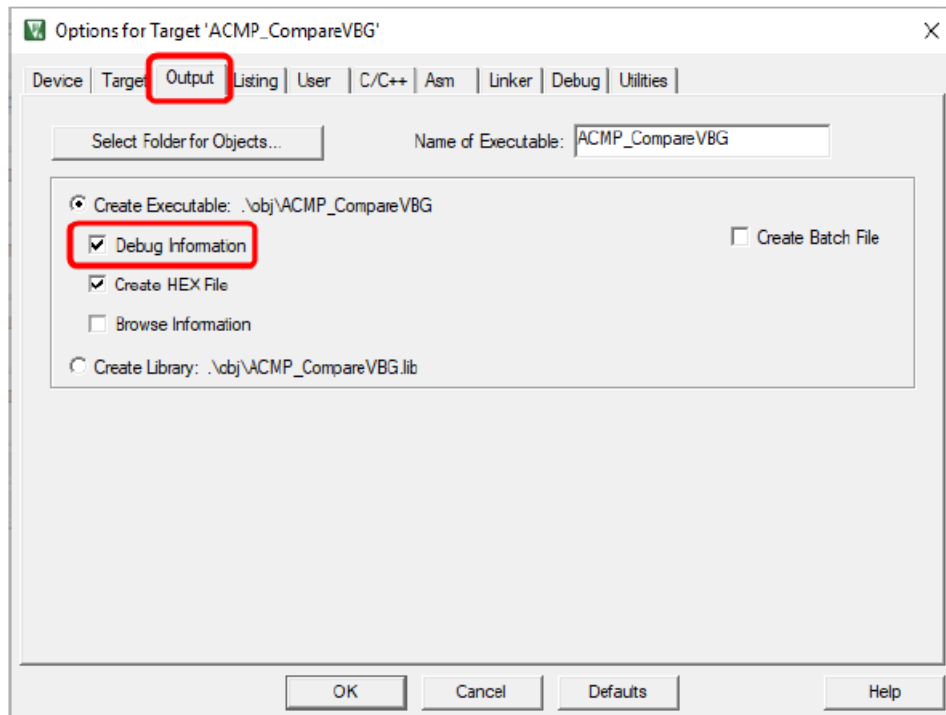

Figure 4-9 Enable Debug Information for Keil MDK
Step 3: Invoke **Project** → **Options for Target** → **Output**, and enable the Debug Information option, as shown in Figure 4-9.